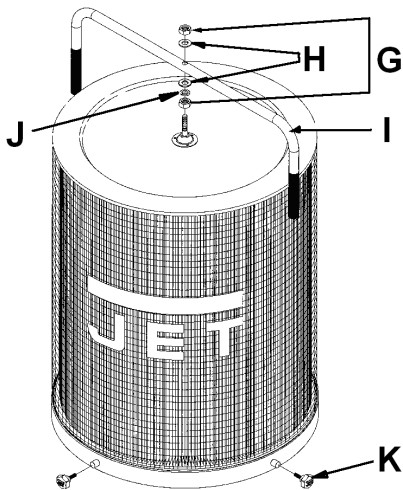

Fig 11
Mount the handle (I, Fig 11) with 2 hex nuts (G), flat washers (H) and a lock washer (J).
To clean the filter on DC-1900CK, turn the handle (I, Fig 11) a couple of rotations so the dust falls into the collector bag.